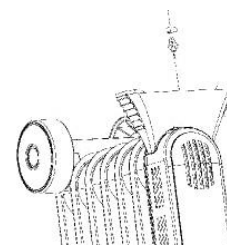

Fig. 9
- Push slightly the front leg to install. Use the screw to join it tightly (figure 9).